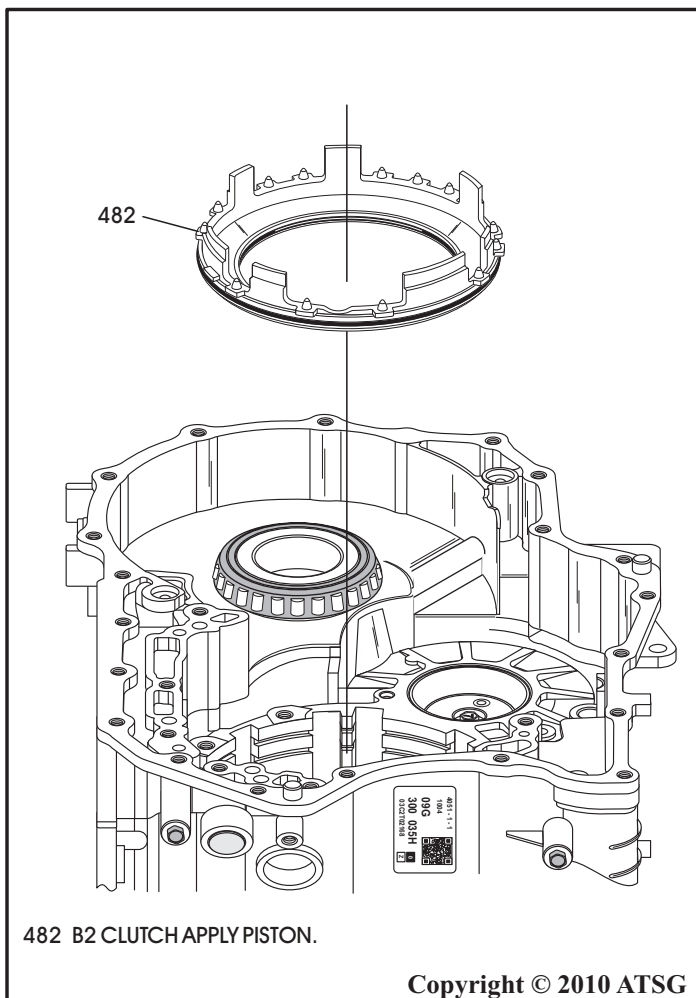

Figure 87
72. Remove the B2 clutch piston from transaxle case as shown in Figure 87.